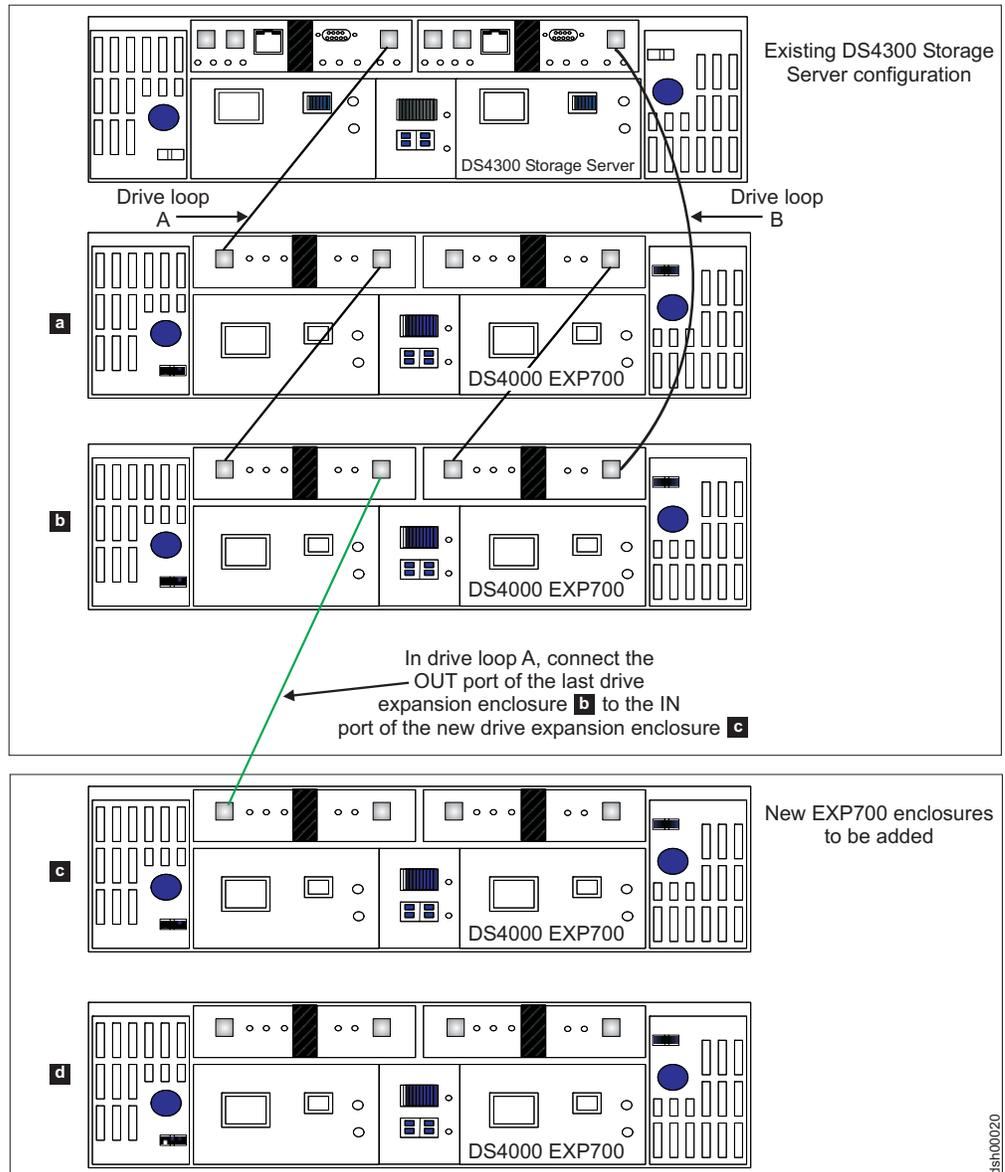
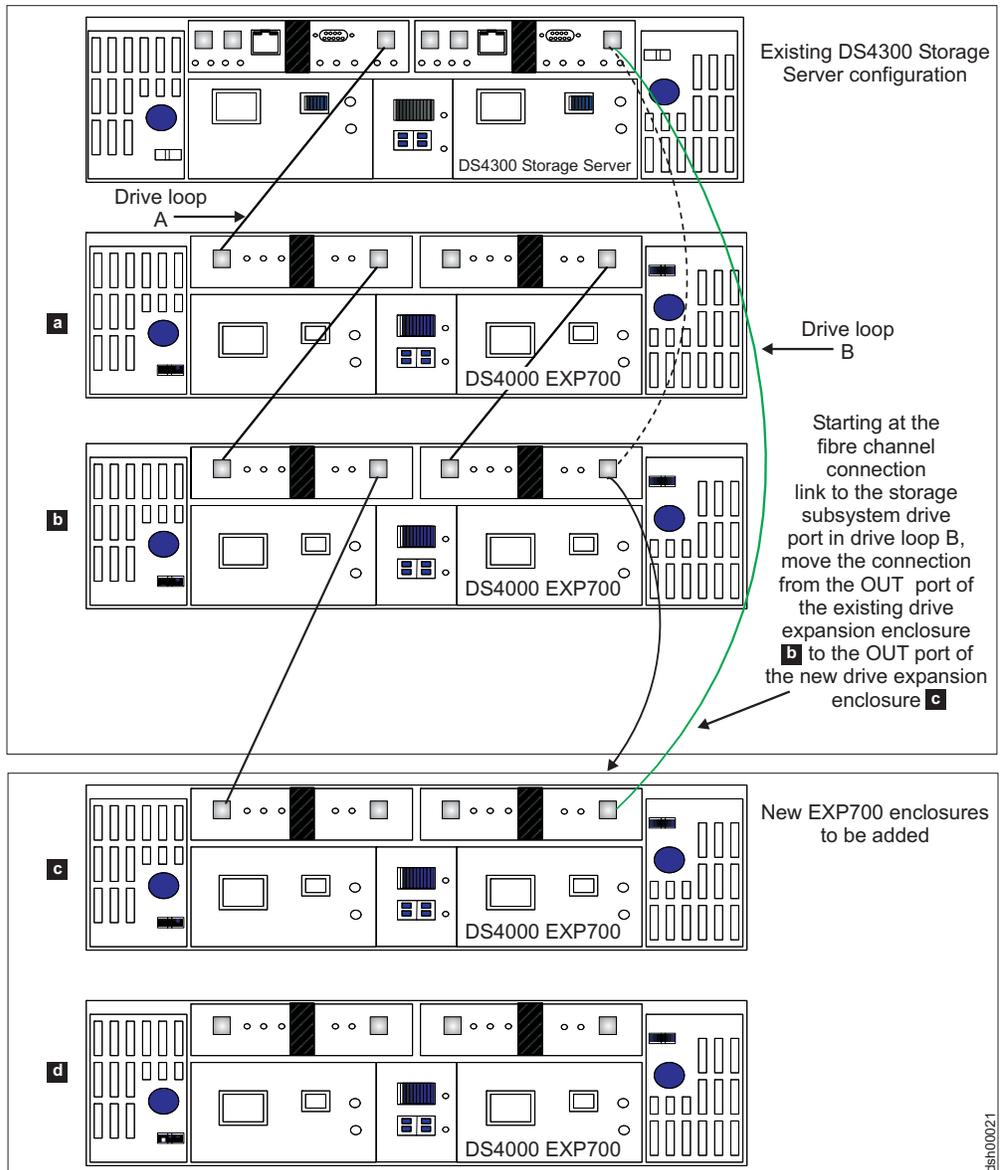
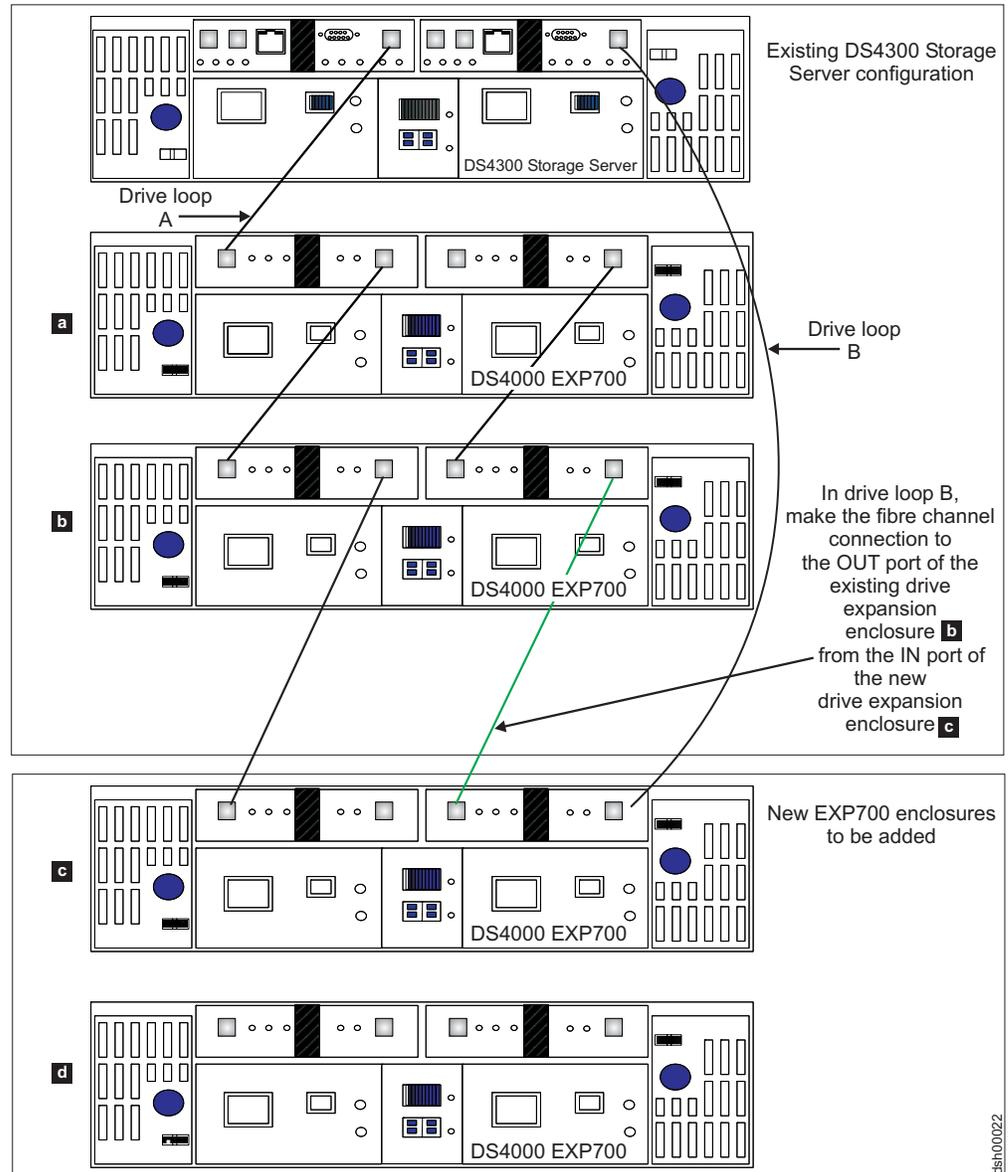

Figure 37. Cabling a single drive enclosure to the end of a functioning drive loop (step 1 of 3)
Figure 38. Cabling a single drive enclosure to the end of a functioning drive loop (step 2 of 3)
Figure 39. Cabling a single drive enclosure to the end of a functioning drive loop (step 3 of 3)
The cabling instructions illustrated in Figure 37 on page 103, Figure 38 on page 104, and Figure 39 on page 105 describe cabling a DS4000 EXP700 Storage Expansion Enclosure to the end (bottom) of a redundant drive loop of a functioning DS4300 Storage Subsystem (model 60X or 60U). Again, IBM recommends that you add storage expansion enclosures to an existing drive loops only in this manner.
- \_\_\_ Step 2. Extend one of the drive loops (that is, drive loop A) in a DS4000 Storage Subsystem redundant drive loop pair by connecting the OUT port of the last storage expansion enclosure to the IN port of the new storage expansion enclosure as shown in Figure 37 on page 103.
- \_\_\_ Step 5. In the other drive loop (that is, drive loop B) in a DS4000 Storage Subsystem redundant drive loop pair, remove the connection from the storage subsystem drive loop port to the OUT port of the last storage expansion enclosure and connect it to the OUT port of the new drive enclosure as shown in Figure 38 on page 104.
- \_\_\_ Step 7. In drive loop B, cable the new drive enclosure's IN port to the OUT port of the last enclosure in the already functioning storage expansion enclosure drive loop as shown in Figure 39 on page 105.